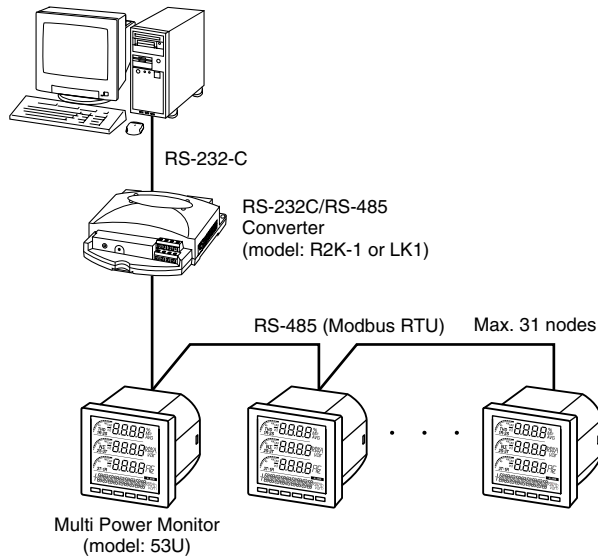

Figure 2.2.1a: System configuration example, Modbus RTU.
As shown in Figure 2.2.1a, the 53U module is connected to PC's COM port (COM1 through COM5) via the RS-232C/RS-485 Converter (model: R2K-1).
Figure 2.2.1a shows a system configuration example via Ethernet using Model 72EM(2)-M4 Ethernet/RS-485 Communication Adaptor. Only one (1) 72EM(2)-M4 can be connected to one PC.